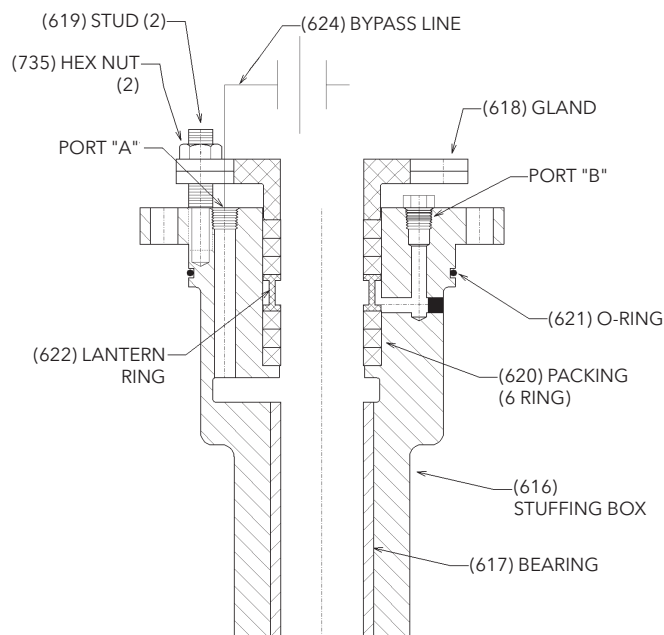

Figure 7
- (See Figure 7). Lubricate tube threads and underside of tension plate flange with thread compound. Thread the tension plate (625) onto the enclosing tube nipple (629) manually until its shoulder rests on the discharge head.